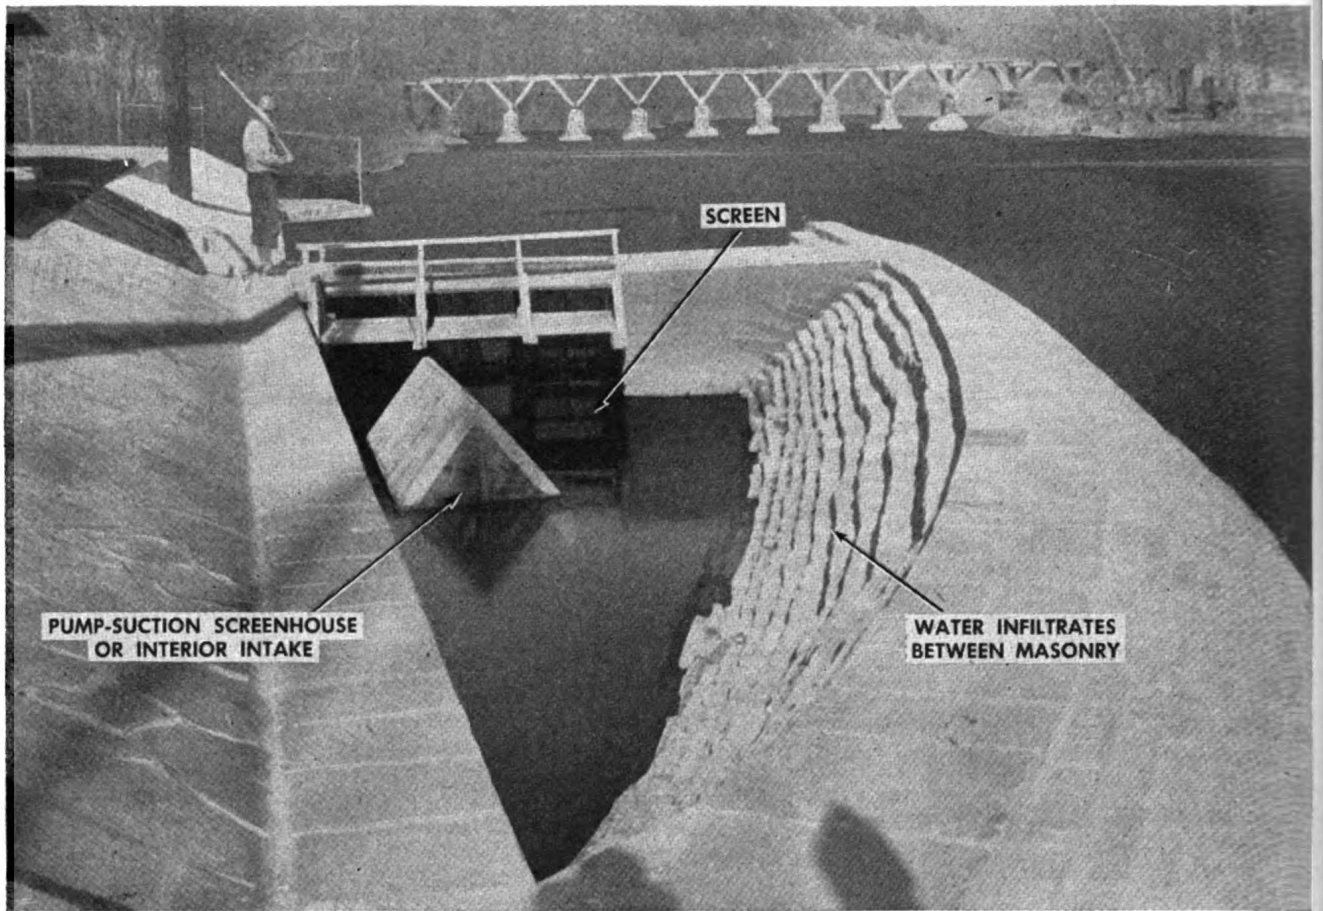

Figure 28. River intake. Screens must be kept clean.
a. Measure Draw-down. Measure draw-down at a known rate of flow and check to see that it is reasonable. Record results. Clean screens and racks if necessary (fig. 28).